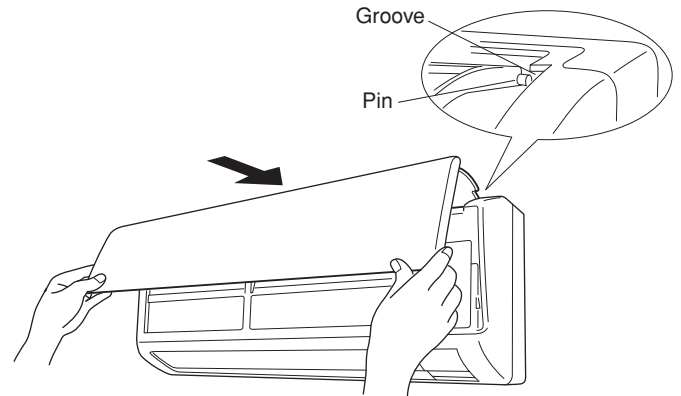
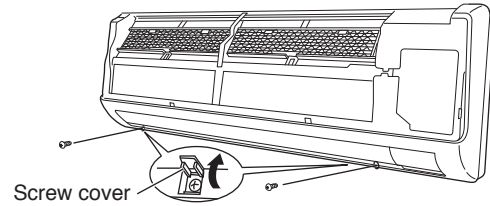

Fig. 19a
Fig. 16b
- (5) Affix the grille with the 2 previously removed screws. (Fig. 16b)
- (6) Install the air intake grille.
- (a) Allow the edge of the air intake grille to slide into the top of the indoor unit, and then insert it all the way inside. (Fig. 19a)